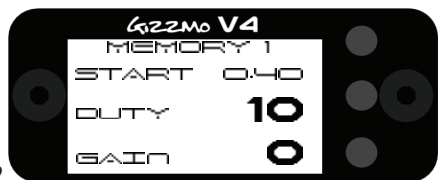

Fig2
- 2) Now HOLD the Down button until the display changes to the display changes to the setting screen like Fig2.